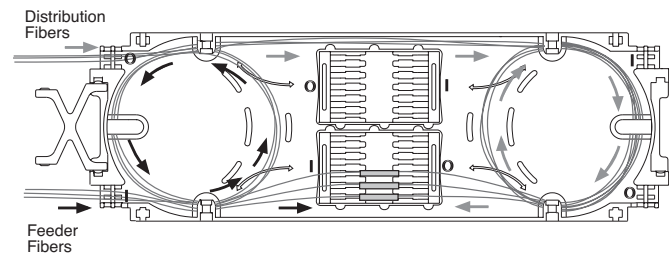

Figure 3
8. SM12: Route fibers 1-6 to one end of the tray, and route fibers 7-12 to the far end of the tray as shown in Figure 3.